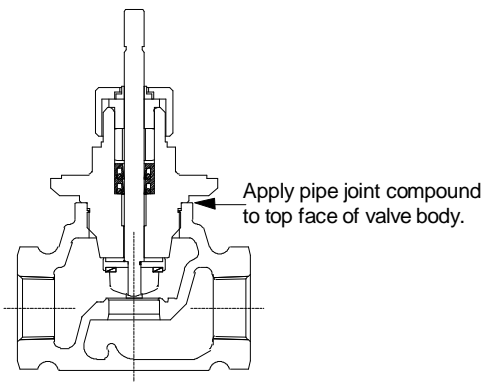

Figure 1: Normally Open Valve
Removal of Inner Valve Assembly (See Figures 1 and 2.)
1. Check to make sure that the top face of the valve and the mating face of the bonnet are clean. **Springly** apply pipe joint compound to the top face of the valve body as illustrated in Figure 1.